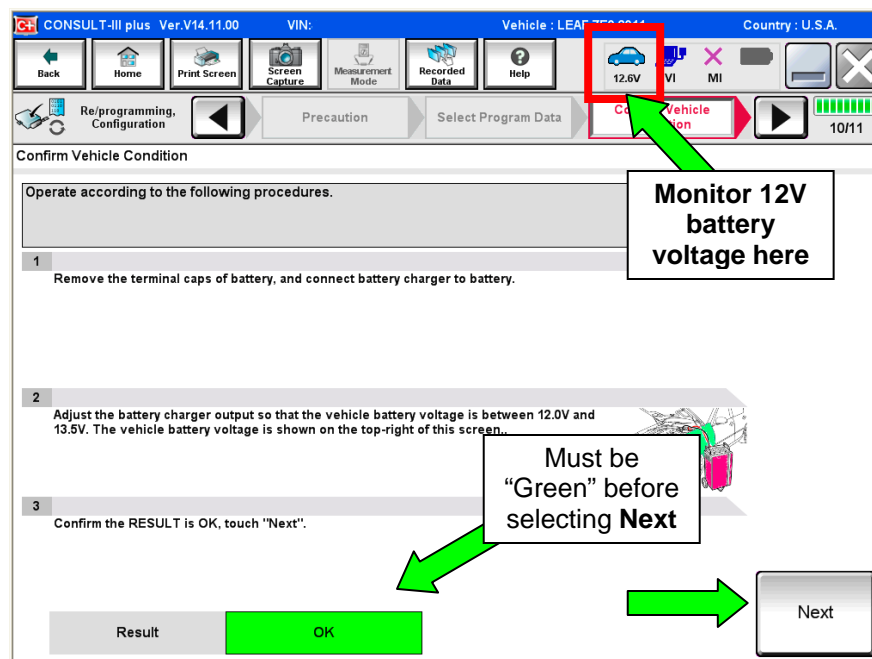

Figure 31
- If no **Saved Data List** is stored Figure 31 will be displayed. Proceed to step 34.